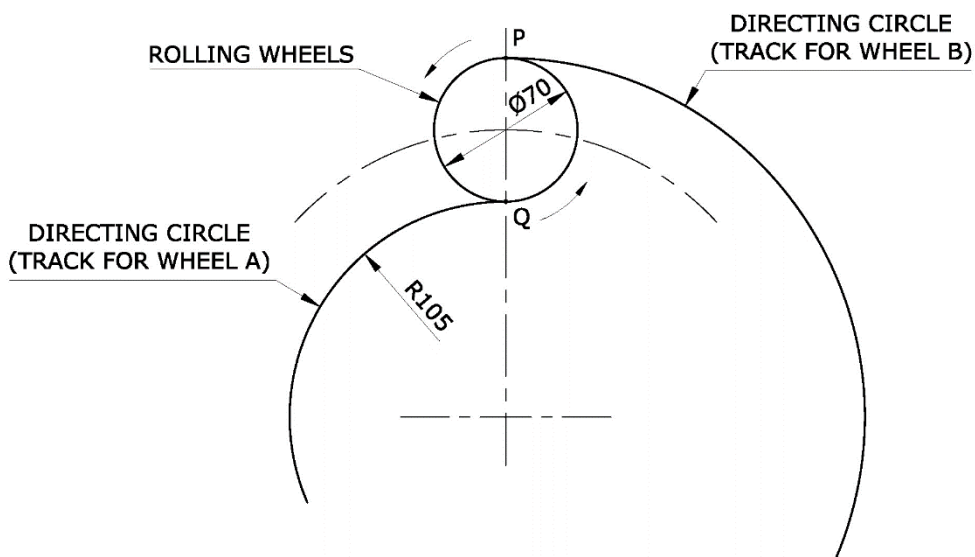

Figure 3b
a) Using the dimensions given in Figure 3b, plot the locus of the point P, situated on the circumference of the wheel A, as it rotates anticlockwise, for three fourths of a revolution, on the outside of the directing circle. Write down the technical term for the locus of the point P. (6)
b) The other wheel B rotates anti-clockwise, for one and quarter of a revolution on the inside of the directing circle. Plot the locus of the point Q and state the name of the locus traced. (7)